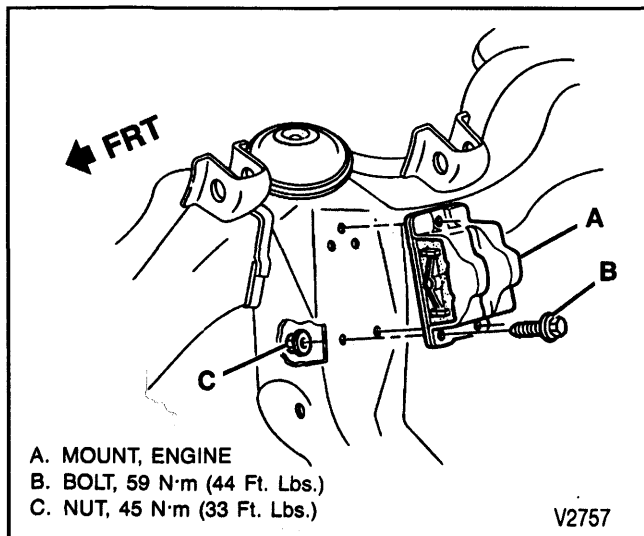

Figure 38—Front Engine Mounting Brackets to Frame (C-Models)
- ↔ Remove or Disconnect (Figures 38, 39, and 40)
- ↔ Install or Connect (Figures 38, 39, and 40)
- Fasteners to specifications. Refer to figures 38 and 39.
Install or Connect (Figure 38, 39, and 40)
- Fasteners to specifications. Refer to figures 38, 39, and 40.